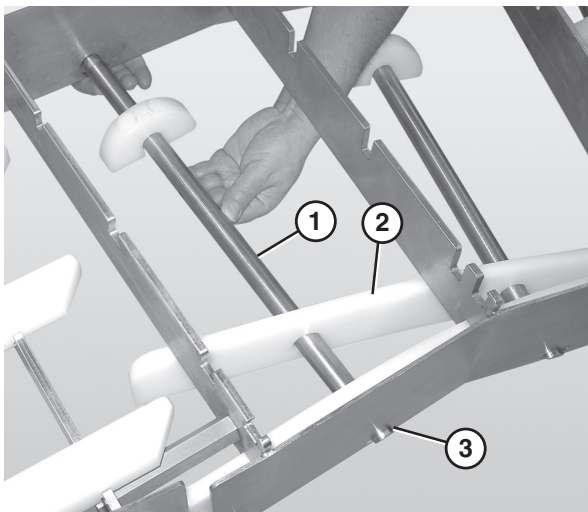

Figure 40
- Slide the long end of the curve return shaft (**Figure 40, item 1**) through the center hole in the return bottom wear strip (**Figure 40, item 2**).
- Push up on the return shaft and slide the notched end of the shaft through the small slot on the opposite side of the frame (**Figure 40, item 3**).